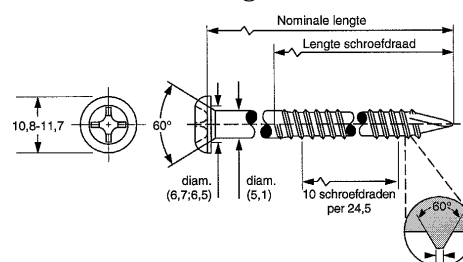

Fig. 3
2.2.9.3 Firestone schroef (fig. 3)